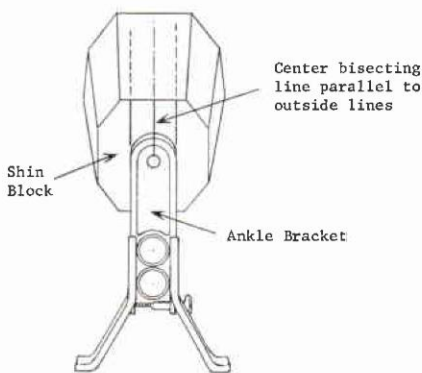

FIGURE 8
12. Index the distal end of the shin block with three lines. Two lines must be parallel to the lateral sides of the ankle bracket. The center line must correspond to the bisecting line scribed on the ankle bracket and also be parallel to the two lateral lines. See Figure 8.